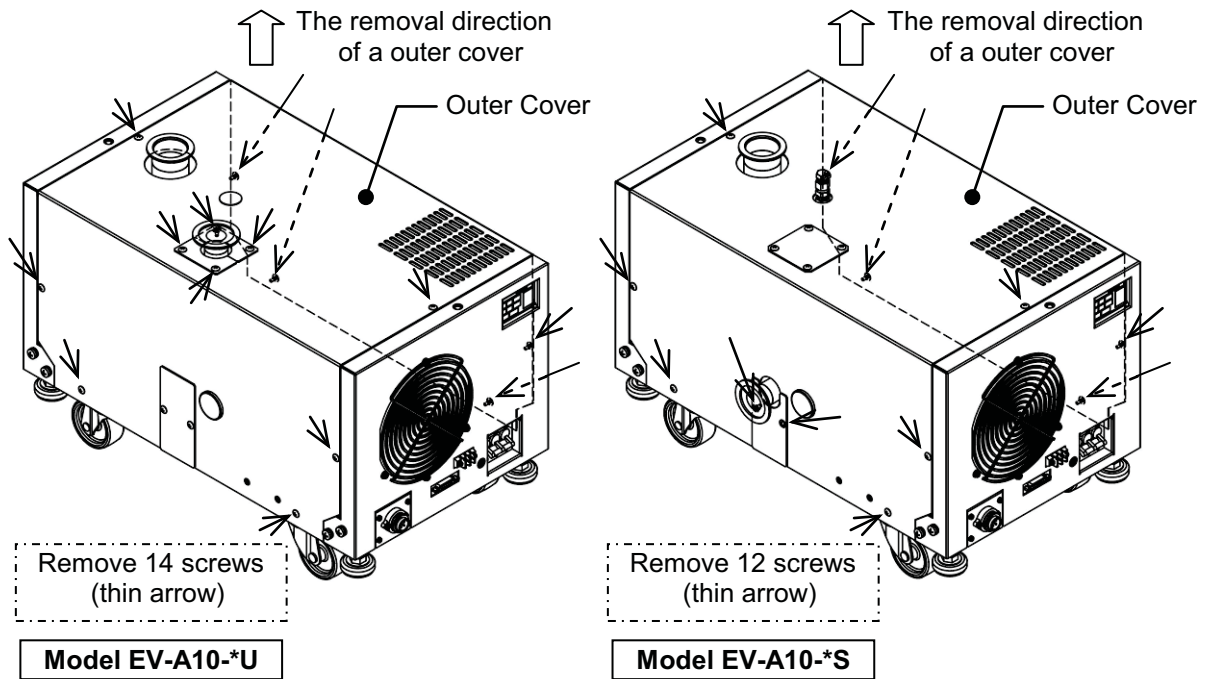

Fig. 6.3 How to remove the outer cover
- (1) Stop the pump and remove the outer cover on the pump.(See Fig. 6.3)